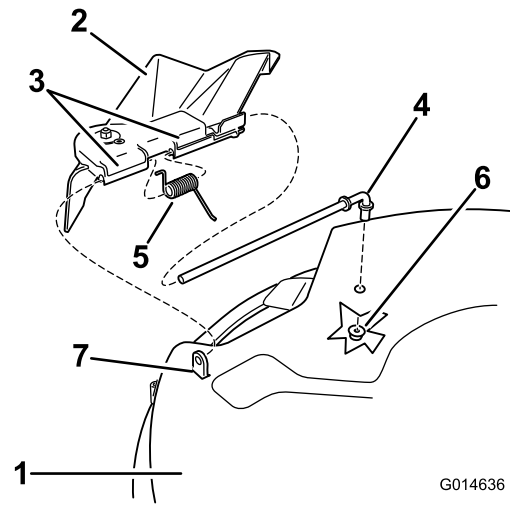

Figure 58
- Remove the nut (3/8 inch) from the rod under the mower (Figure 58).
- Slide the rod out of the short stand-off, spring, and grass deflector (Figure 58).
- Replace the grass deflector (Figure 58).
- Slide the rod through the second grass-deflector bracket (Figure 58).
- Secure the rear end of the rod into the mower with a nut (3/8 inch) as shown in Figure 58.